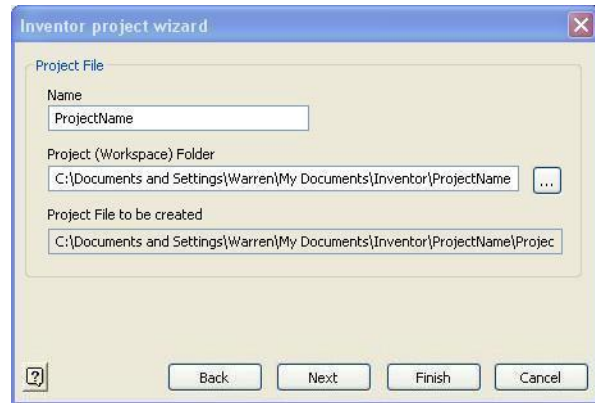

Figure 1.4
- Step 2 - Figure 1.4: Sets the location of the Workplace folder and Project name.